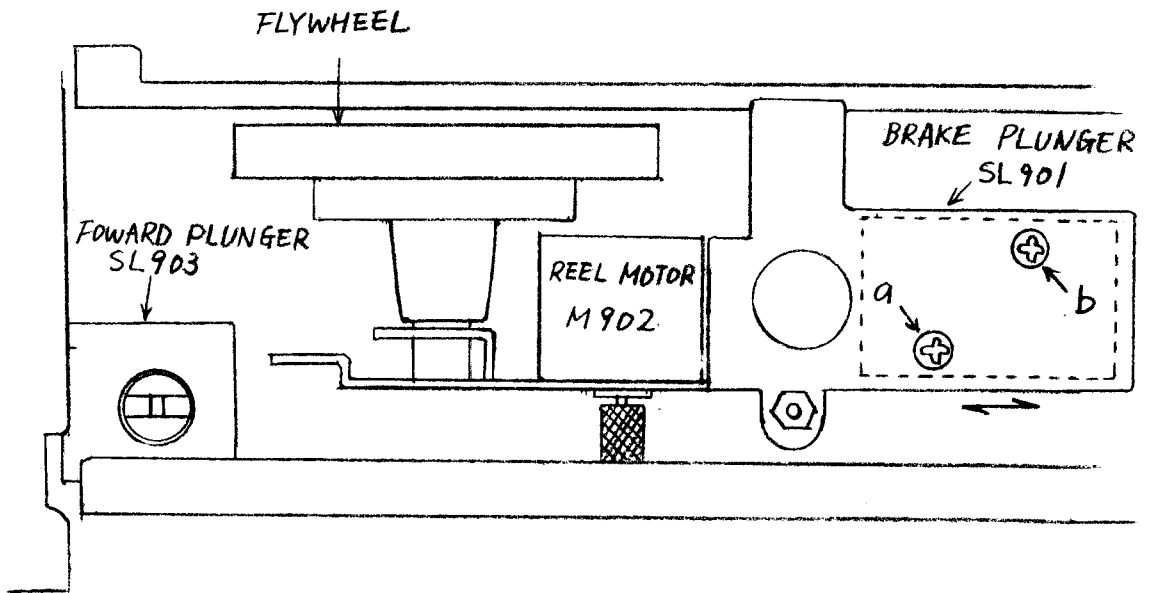

Fig. 3-2
2) Brake Plunger Adjustment (Refer to Figs. 3-2, 3-3)